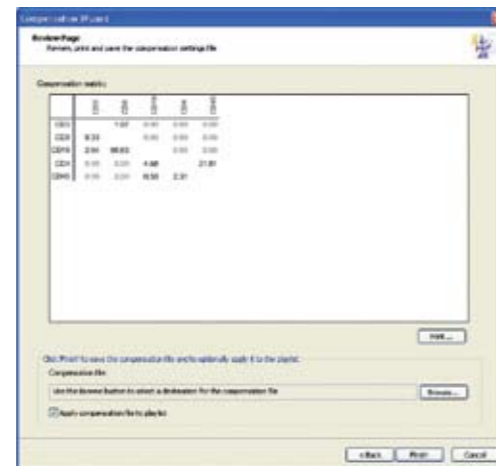

Figure 4. Review Page with Options to Save or Print the Compensation Settings
6. Then the last page of the wizard allows you to review, print or save the compensation settings file. See fig 4